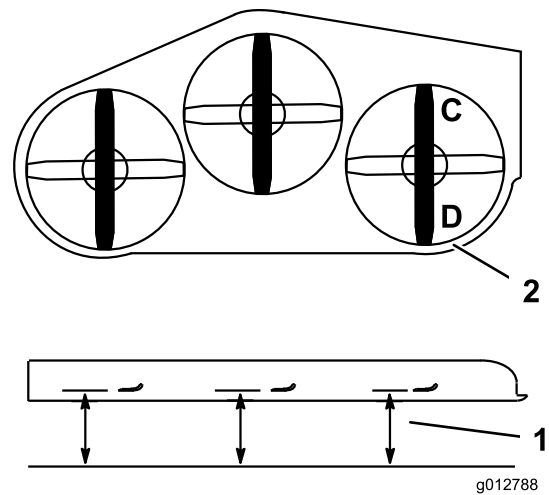

Figure 87
1. Position the right blade front-to-rear (Figure 87).
2. Measure the right blade at the **C** location, from a level surface to the cutting edge of the blade tip and record this measurement (Figure 87).
3. Measure the right blade at the **D** location, from a level surface to the cutting edge of the blade tip and record this measurement (Figure 87).
4. The mower blade should be a 1/4 to 3/8 inch (6 to 10 mm) lower at position **C** than at position **D** (Figure 87). If it is not correct, proceed to the following steps.